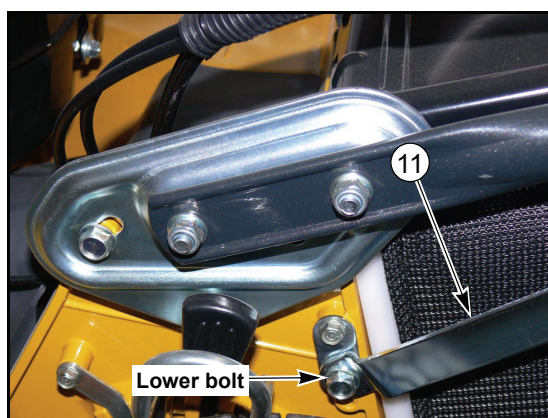
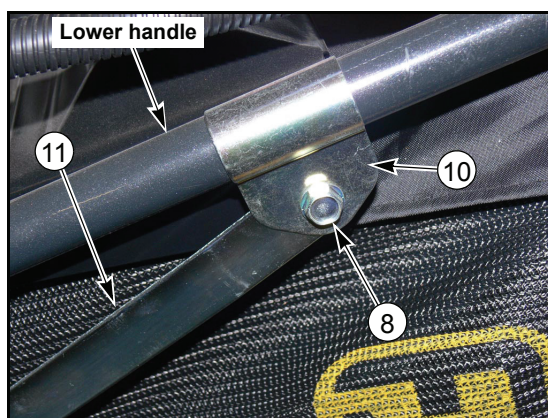

Fig. 4-5
Fig. 4-6
3. Remove the lower bolt and attach the bar ⑪ to the mower as shown. Fig. 4-5. Start the bolt in the hole but do not tighten. Install the bracket ⑩ to the lower handle and attach the bar ⑪ using hardware ⑧ and ⑦ (flanged cap nut not shown). Tighten all of the hardware. Fig. 4-5 and Fig. 4-6